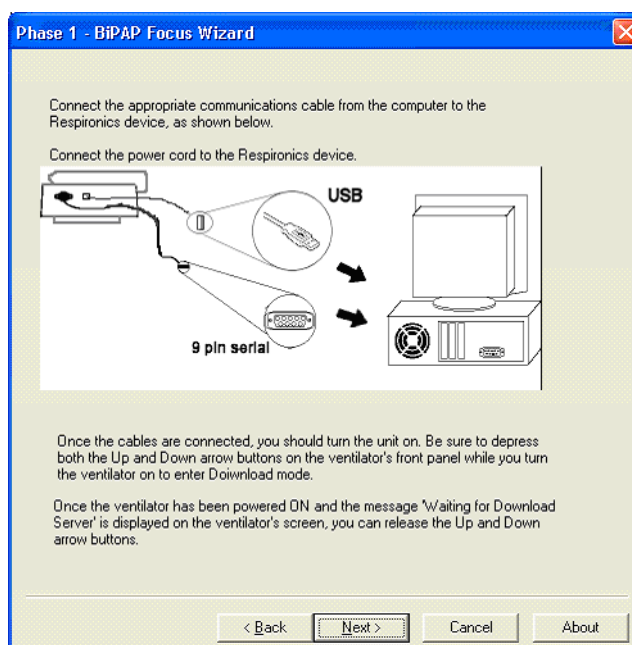

Figure 6-7: Communications Cable Connection Screen
3. The screen then shows cable connection information (Figure 6-7): Verify the cables are connected properly then click **Next**.